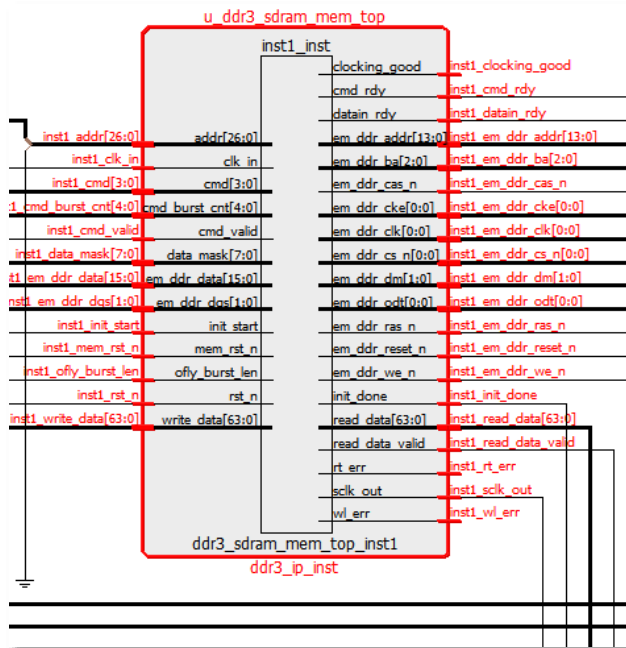

Figure 3.16. Using Dissolve Instance on Inner Module
- If there is another level of hierarchy, select **dissolve instance** on the inner module to flatten the schematic as shown in Figure 3.16.